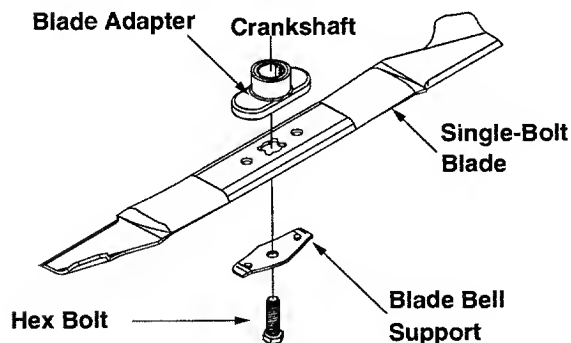

Figure 13
- Remove the bolt and blade bell support which hold the blade and adapter to the engine crankshaft. See Figure 13.
- Install the blade adapter on the crankshaft with the "star" away from the engine. See Figure 13.
- Insert the hex bolt through the blade assembly. Figure 13 shows the correct order of assembly.